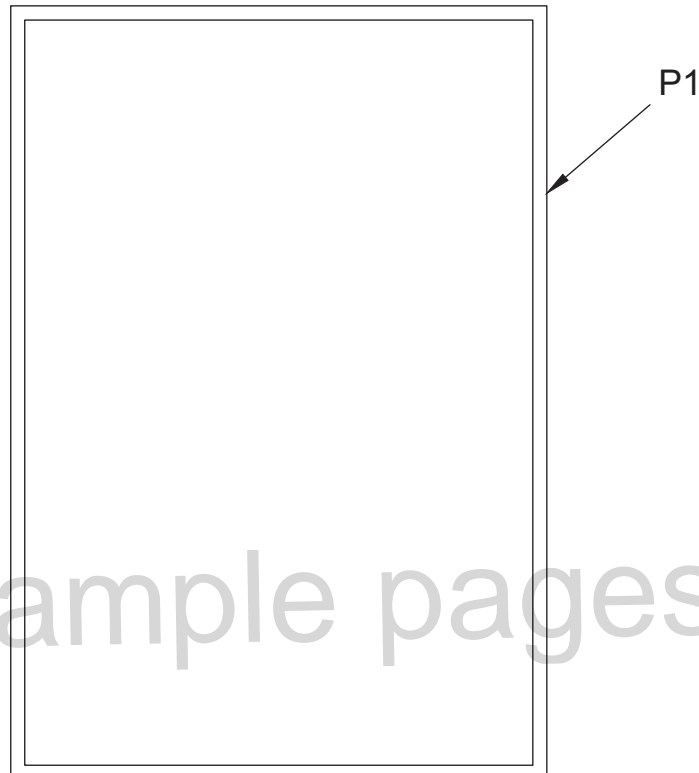

Figure 3-4
Step 4. Use **Polyline** to draw the inside lines of the conference room walls (Figure 3-4), as described next: